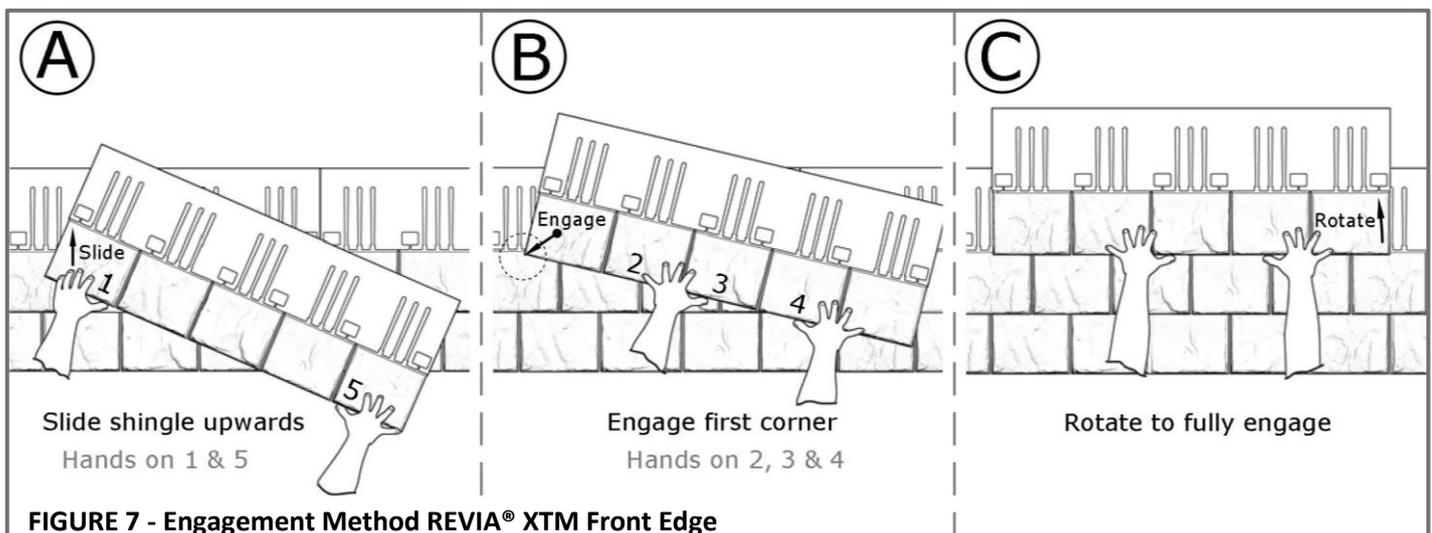

FIGURE 7 - Engagement Method REVIA® XTM Front Edge
- Engage Course #1 Front Edge Lock into starter Nail Line Lock using the same method used for subsequent courses. Follow steps A, B and C. See **Figure 7**.